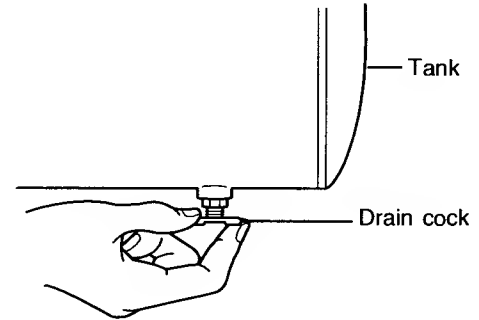

Fig. 6
- B) Gradually open the drain cock, take out the drainage and all the compressed air inside the tank to prevent any internal corrosion of the tank. (Fig. 6)
Gradually open the drain valve, and drain out the air in the tank. (Fig. 6)